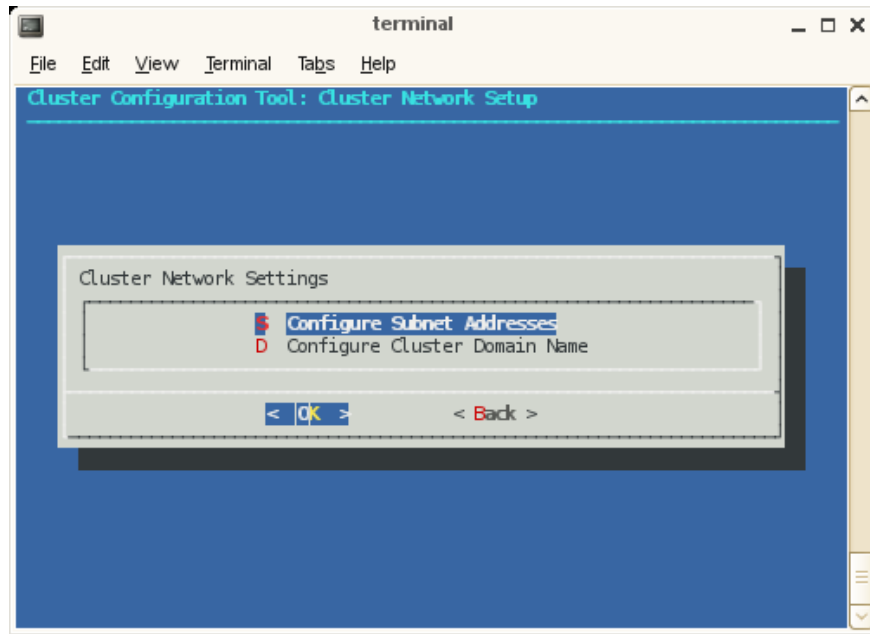

Figure 2-17 Cluster Network Setup Screen
29. After choosing the **Network Settings** option, the **Cluster Network Setup** screen appears, as shown in Figure 2-17 on page 50.